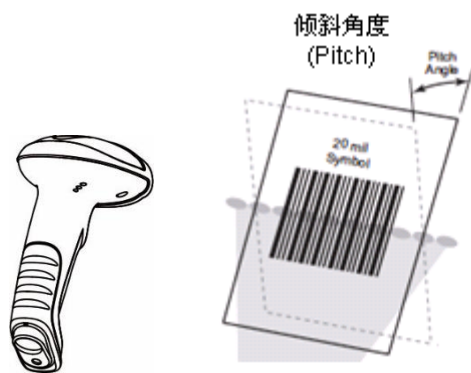

Fig. 1-12
- ✧ Pitch : $\pm 55^\circ$, 0° Roll and 0° Skew (Fig. 1-12)